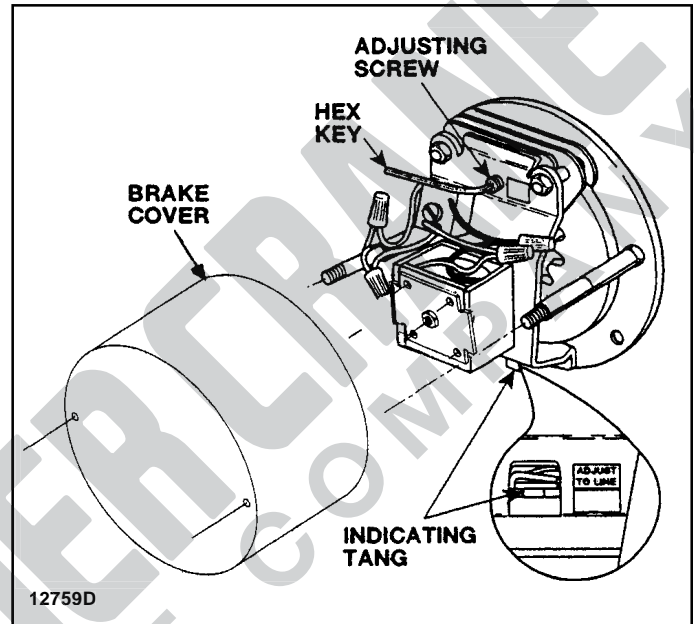

Figure 1. Hoist Motor Brake
6. To mount brake, remove brake cover and fasten brake mounting plate to motor with two socket head cap screws. Orientation of brake is as shown in Figure 1.